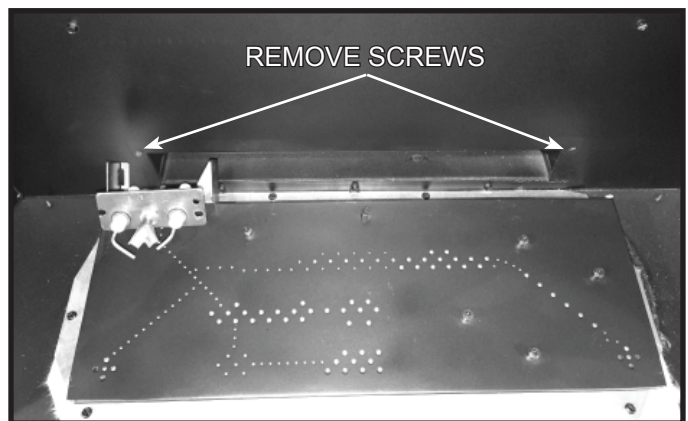

Figure 1. Remove Screws
2. Remove the screw that secures the pilot assembly to the burner. Retain screw for future use. Gently move the pilot assembly upward about two inches. Remove two lower screws behind the burner. Retain those screws also for future use. See Figure 1.